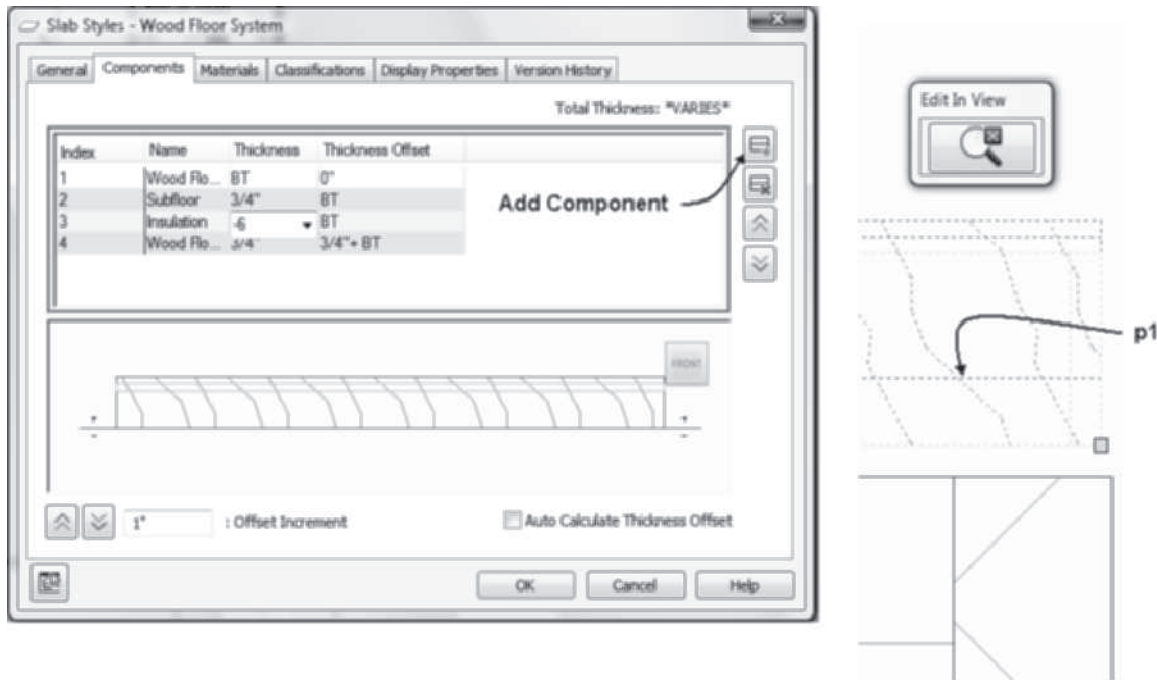

FIGURE 8.29 Component settings for insulation
12. Remain in Edit in View, choose the slab, and choose **Edit Style** from the General panel of the Slab contextual tab. Choose the **Components** tab and select the **Subfloor** component. Choose **Add Component** from the right toolbar as shown in Figure 8.29. Choose the **Index 3** component, click in the **Name** column, overtype **Insulation**, and click in the **Thickness** column and overtype **-6[-150]**. Click **OK** to dismiss the **Slab Styles-Wood Floor System** dialog box.
13. Choose the Home tab. Choose Content Browser from the Tools flyout of the Build panel. Open the Visualization Catalog, navigate to AEC Material Tools > US Imperial > Thermal and Moisture > Insulation [AEC Material Tools > US Imperial > Thermal and Moisture > Insulation]. Drag the **Thermal & Moisture.Insulation.Batt.6 [Thermal & Moisture.Insulation.Batt.140]** i-drop into the workspace. When prompted to *Select a component or object*, click the pickbox at **p1** as shown in Figure 8.29. Press ENTER to apply the material definition to the style.